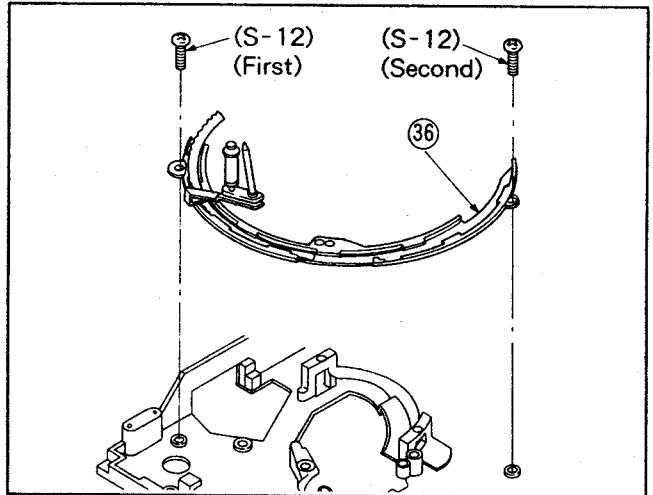

Fig. M18
- 40) Remove S rack guide assembly. See fig. M18.
- 6) Reinstall the S rack assembly. See Fig. M18.